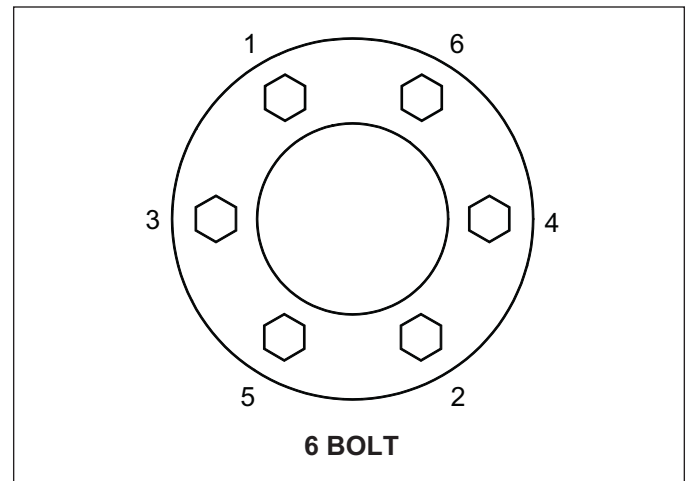

Figure 2-11: Tightening Sequence
- Install a Tire and Wheel Assembly onto each Hub with 1/2-20 x 1 Wheel Bolts and tighten the Wheel Bolts to 50 Ft-Lbs. using the sequence in **Figure 2-11**. Then tighten to a full torque of 80-85 Ft-Lbs.